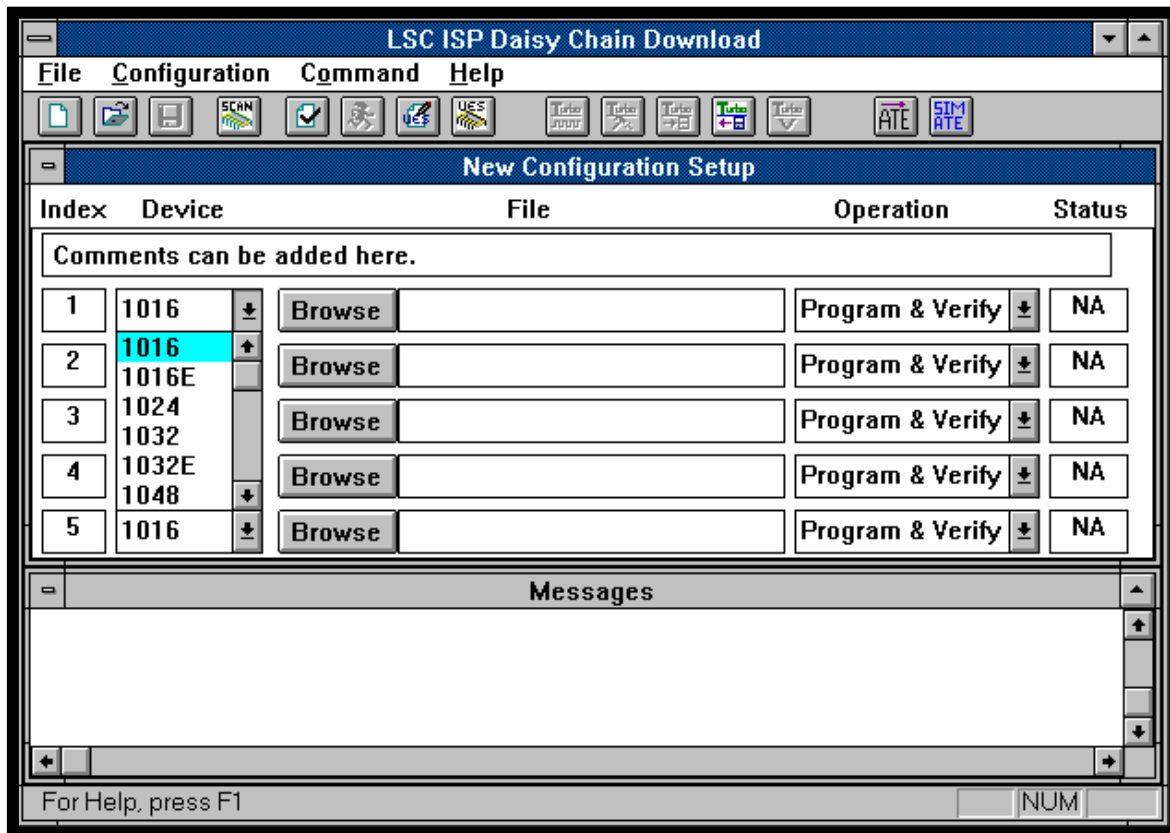

Figure 3-5. Device Pull-down Menu
3. Select the device type in the Device field. Use the arrow button to activate the pull-down menu (Figure 3-5).